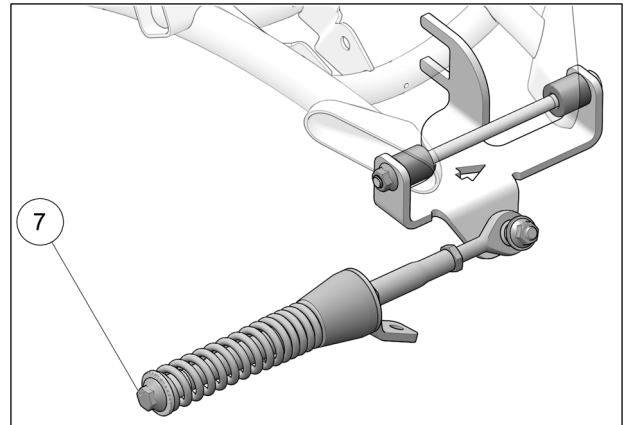

Fig. 11
11. Verify that spring assembly bolt (7) is tightened to the recommended torque specification: $75 \text{ N}\cdot\text{m}$ [$55 \text{ lb}\cdot\text{ft}$]. Refer to Fig. 11